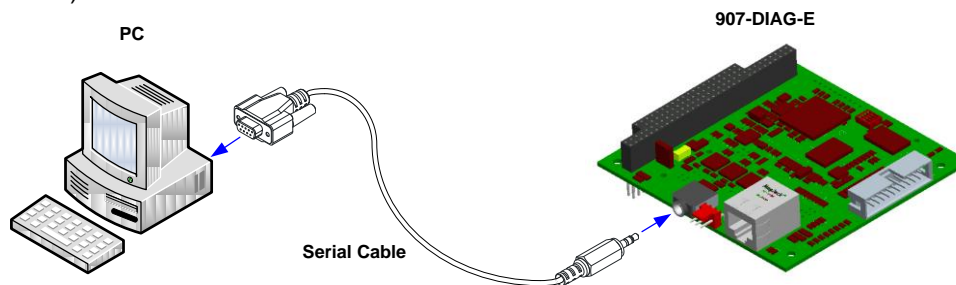

Figure 5-9: Serial Connection, PC to 907-DIAG-E card
1. Connect the serial cable from your PC to the 907-DIAG-E card as shown in Figure 5-9 (remote and console stacks are not shown).